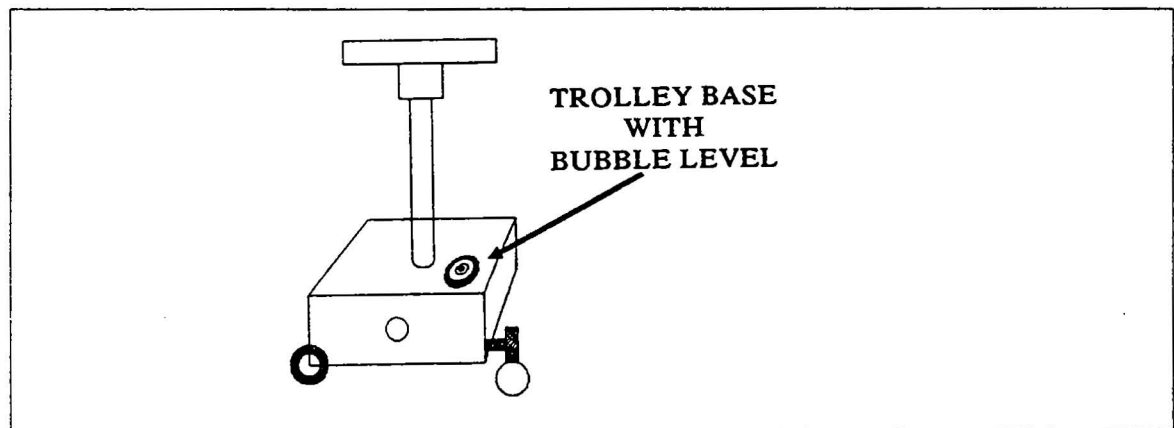

Fig. 5-11 Trolley base with bubble level
2. Place a bubble level on top of the trolley base (Fig. 5-11).
4. Place the same bubble level upon the center of the platform and verify the bubble's location matches that of the puck. If the two bubble locations does not match, adjust the platform's pitch or roll (Fig. 5-11) to match the bubble level position of the puck.